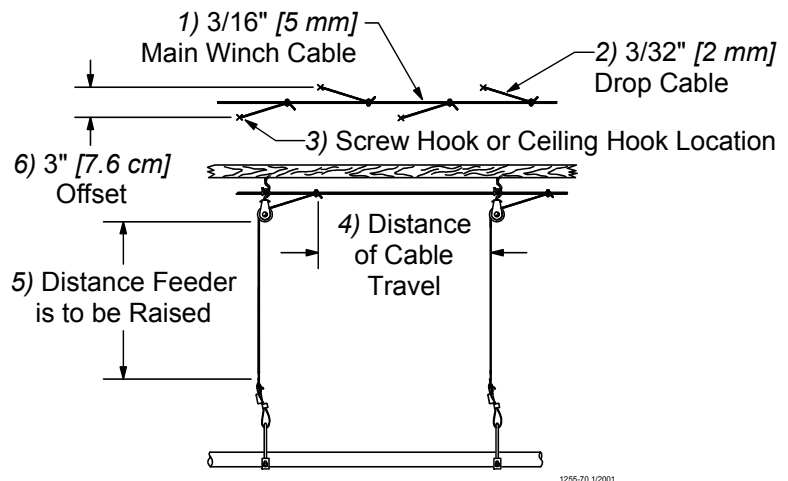

**Figure 11. Power Winch Drum Rotation**
5. Turn the winch drum one full revolution. Guide the cable against the flange at the bottom of the winch drum. The cable must not wrap over itself on the drum, but should be wrapped as close as possible to each previous wrap. **See Figure 11.**